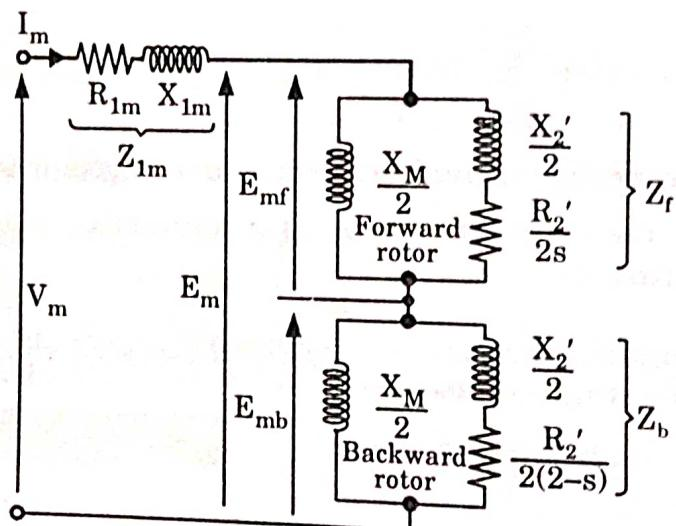

Fig. 5.3.2. Equivalent circuit at running.
3. Fig. 5.3.2 shows an equivalent circuit under running condition.